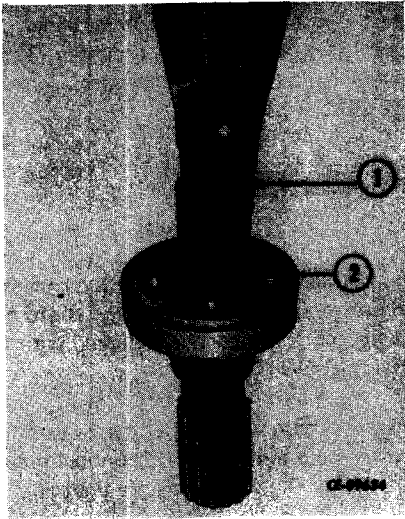

Figure 11-23
Using snap ring pliers (1, Fig. 11-23) remove snap ring (2).
Using snap ring pliers (1, Fig. 11-23), install snap ring (2) on shaft.